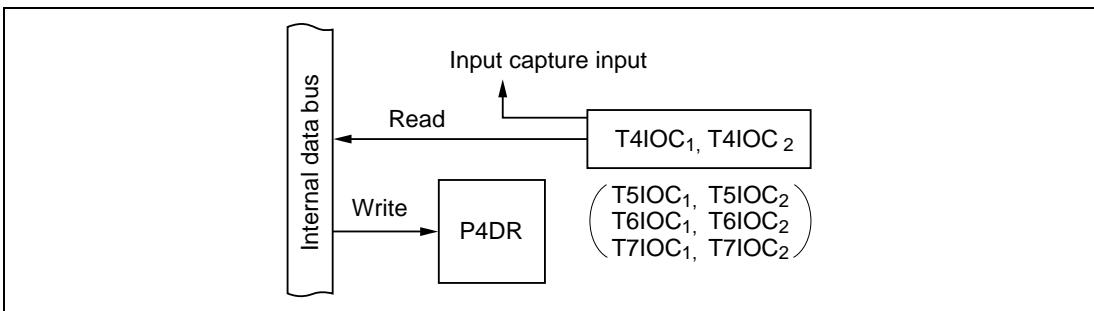

**Figure 10-25 Input Capture Combined with General-Purpose Output (Modes 1 to 7)**
**(4) Timer Input Combined with General-Purpose Output (Modes 1 to 7):** Figure 10-25 shows a block diagram illustrating the input capture function when combined with general-purpose output. Table 10-18 indicates register read/write data. An input capture pin can also function as an output port, in which case the output value is input to the timer.